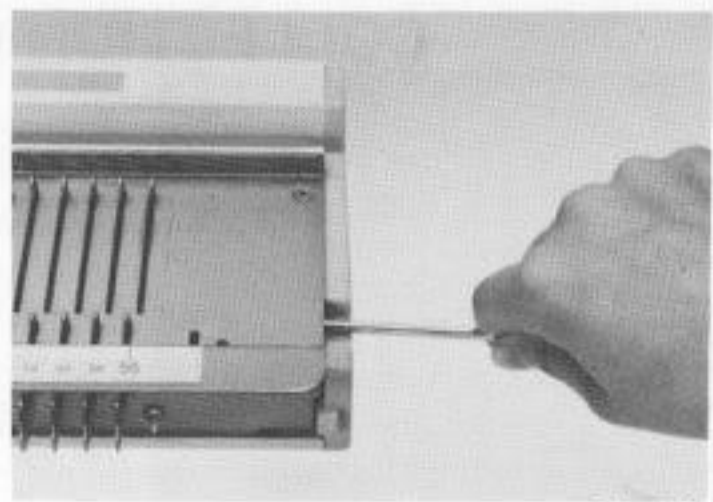
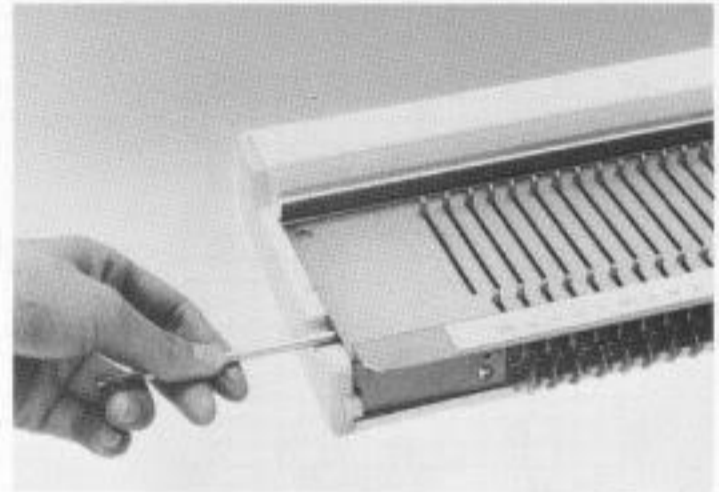

Fig.134
Fig.135
Bring forward into position (E) all the needles. (Fig.134)
At the end nearest to the needle to be changed, push in the rod with the blade of the screwdriver – see Fig.134 – until an inch or so of the rod appears through the hole at the opposite end of the machine. (Fig.135)